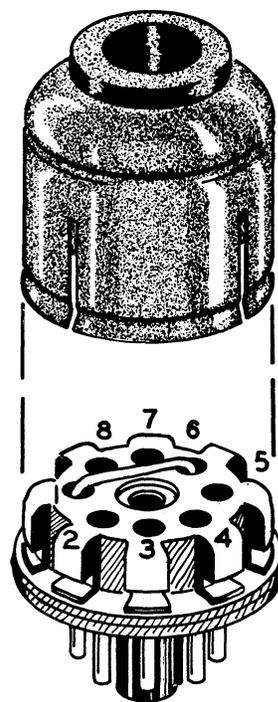

Figure 1
- (✓) Locate the octal plug and octal plug cap. Referring to Figure 1, connect a bare jumper wire between lugs 1 (S-1) and 6 (S-1). Now install the octal plug cap.